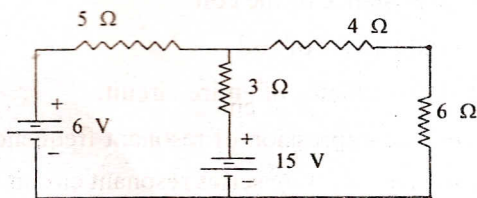

Fig. 2
- (c) State and explain super position theorem. Determine current through 6Ω resistor. Fig. 2